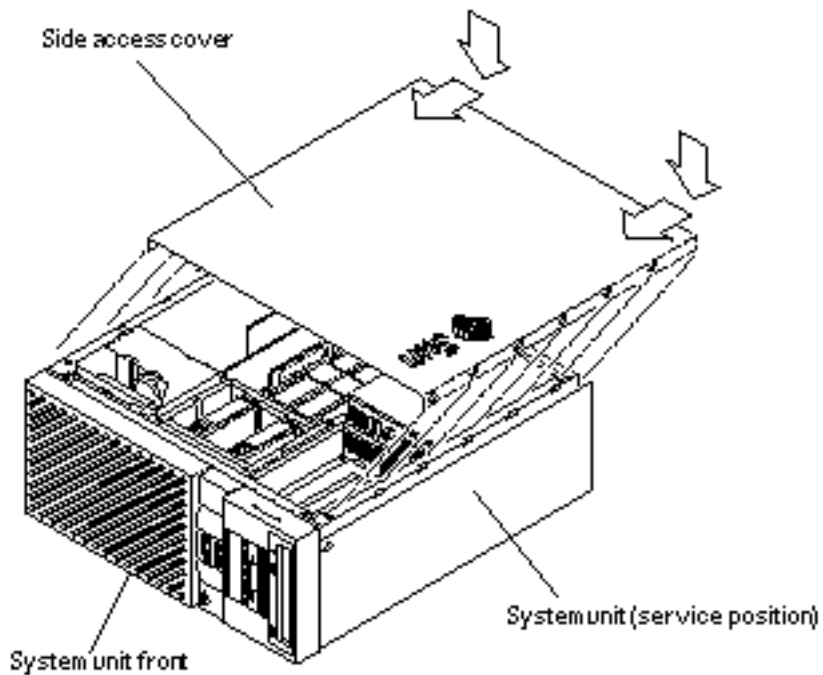

Figure 1-13 Replacing the Side Access Cover
11. Replace the side access cover (Figure 1-13).